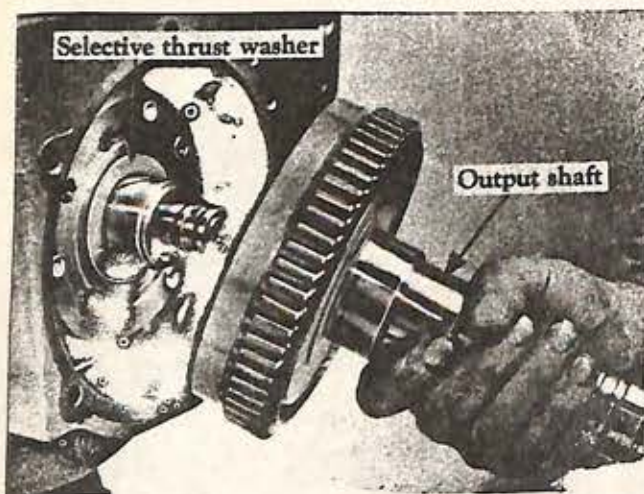

Fig. 50
1. Hold the rear drum forward, then remove the output shaft (Fig. 50).
2. Remove the selective thrust washer from the rear of the pinion carrier (Fig. 50).